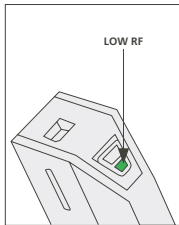
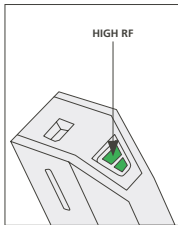

FIG.14
FIG.15
4. Select the power setting (Low/High) that is most comfortable for you. When the green indicator light shows a single green light illuminated (Fig.14), the device is operating at the Low power level. You can press the Power button again to change to the High power level (Fig.15).